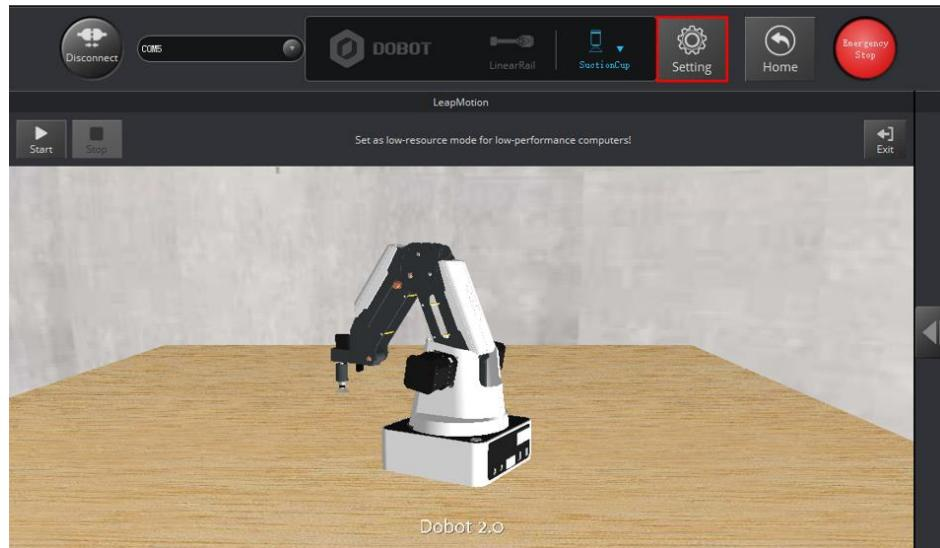

Figure 5.97 Click Setting
**Step 3** Click **Setting** on the **DobtStudio** page, as shown in Figure 5.97.